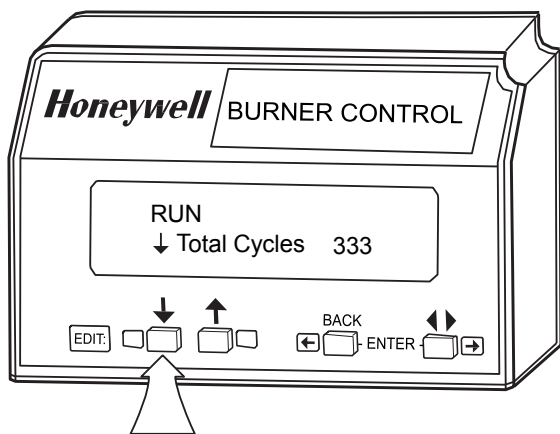

Fig. 10. \updownarrow Push-button function.
1. Down-up arrow push-buttons. See Fig. 10. The down-up arrow push-buttons are used to scroll through the selectable messages. The double-headed arrow (\updownarrow), which is located in the lower left position of the second line of the display, represents the down-up push-buttons. The down-up push-buttons can be pressed to display the selectable messages one at a time or held down to scroll through the selectable messages at the rate of two per second. When the last item of the selectable message is viewed, the display wraps around and displays the first selectable message again.